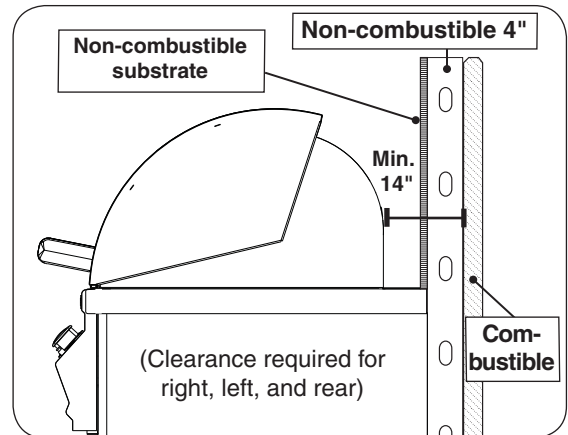

Fig. 10-2 Clearance 'B' Diagram
B. Clearance between grill and a protected combustible wall (i.e. a non-combustible wall in front of a combustible wall to serve as a barrier. This can be accomplished by brick, or a metal stud finished with non-combustible substrate, see Fig. 10-2)